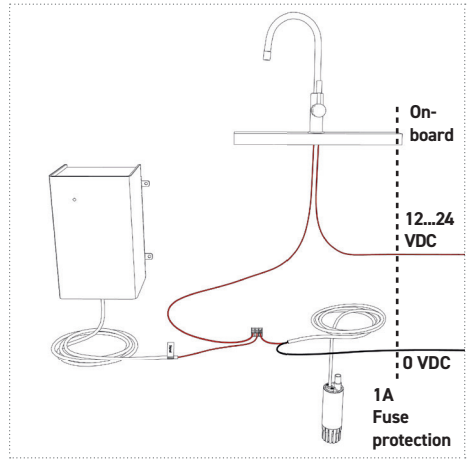

Figure 16: Electrical connection (signal) with submersible pump
- Always observe the electrical connection diagram (power supply and signal: Figures 16, 17, 18, and 19). Ensure that the cross-section of the supply lines is adequately sized.